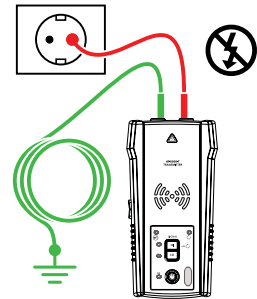

Figure 3.1b
**ATTENTION:** Due to safety reasons this is only allowed in de-energized circuits. (see figure 3.1b) Do not use a ground wire that runs in parallel to the wire you are going to trace, as it will reduce or cancel tracing signal.